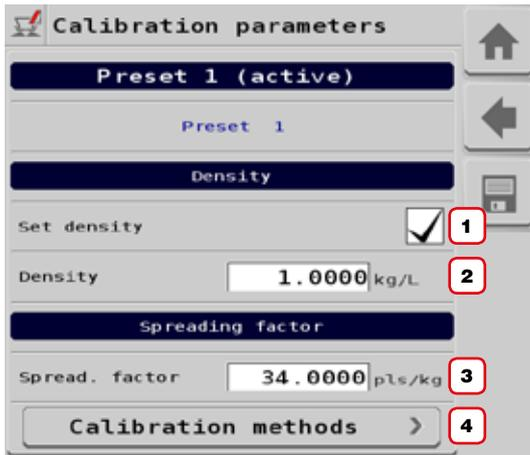

Fig. 29
- 6 Displays the percentage value of the difference between **Working density** 5 and **Density** ("Fig. 29" on page 18).
- 1 Preset datum ("Fig. 29").
- 1 Preset datum ("Fig. 29" on page 18).